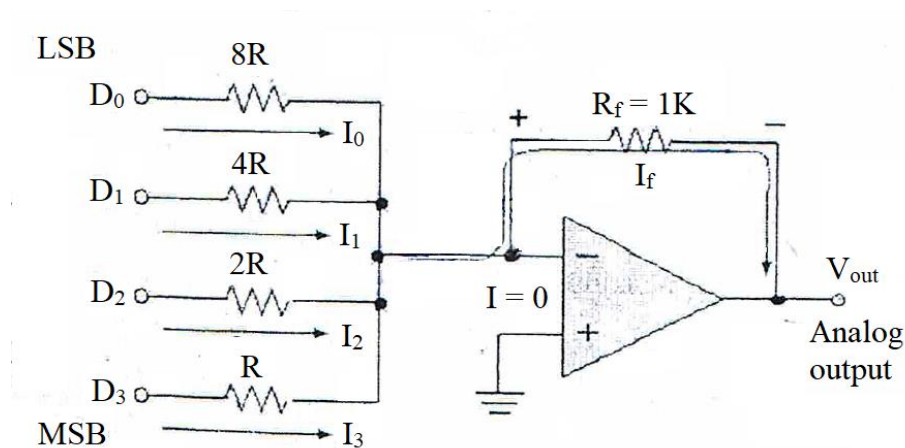

Figure 5.1
In a binary-weighted-input DAC, shown in figure 5.1, the input current in each resistor is proportional to the column weight in the binary numbering system. It requires very accurate resistors. The MSB is represented by the large current, so it has the smallest resistor. To simplify analysis, assume all current goes through R_f and none into the Op-Amp. Therefore,
1. Connect the DAC circuit of figure 5.1 choosing R as 0.625k Ω , 2R as 1.2k Ω , 4R as (2.2k Ω + 220 Ω), and 8R as 4.7k Ω . Set the power supply voltage $V_s = 5V$.